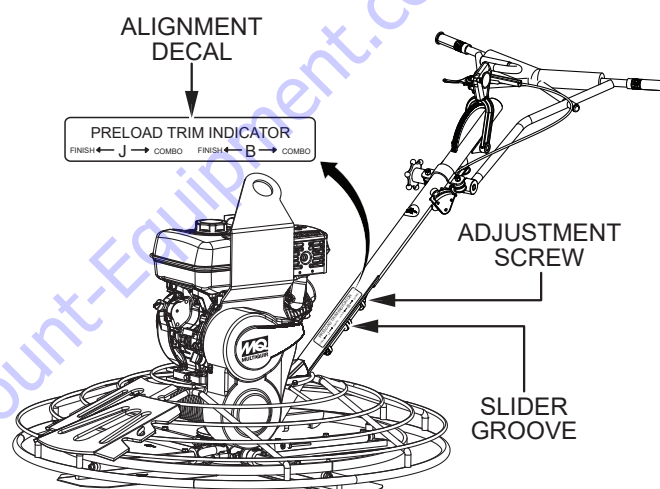

Figure 15. Spring Pre-Load Adjustment
- Locate the spring pre-load adjustment screw (Figure 15) on the underside of the handle tube.
- An alignment decal (Figure 15) has been placed on the side of the handle tube to assist the user in the adjustment of the Quick-Pitch™ handle spring. If using a J36 series trowel, align the groove on the slider with the letter 'J' on the decal. If using a B46 series trowel, align the groove on the slider with the letter 'B' on the decal.